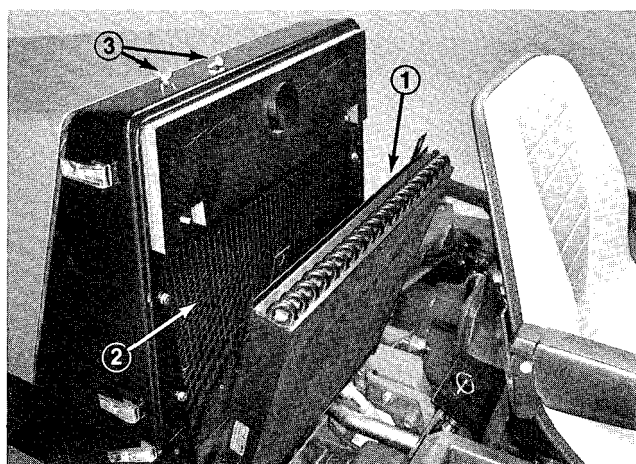

Figure 41
- C. Remove wing nuts securing top of oil cooler to upper radiator support and pivot top of oil cooler away from radiator (Fig. 41).